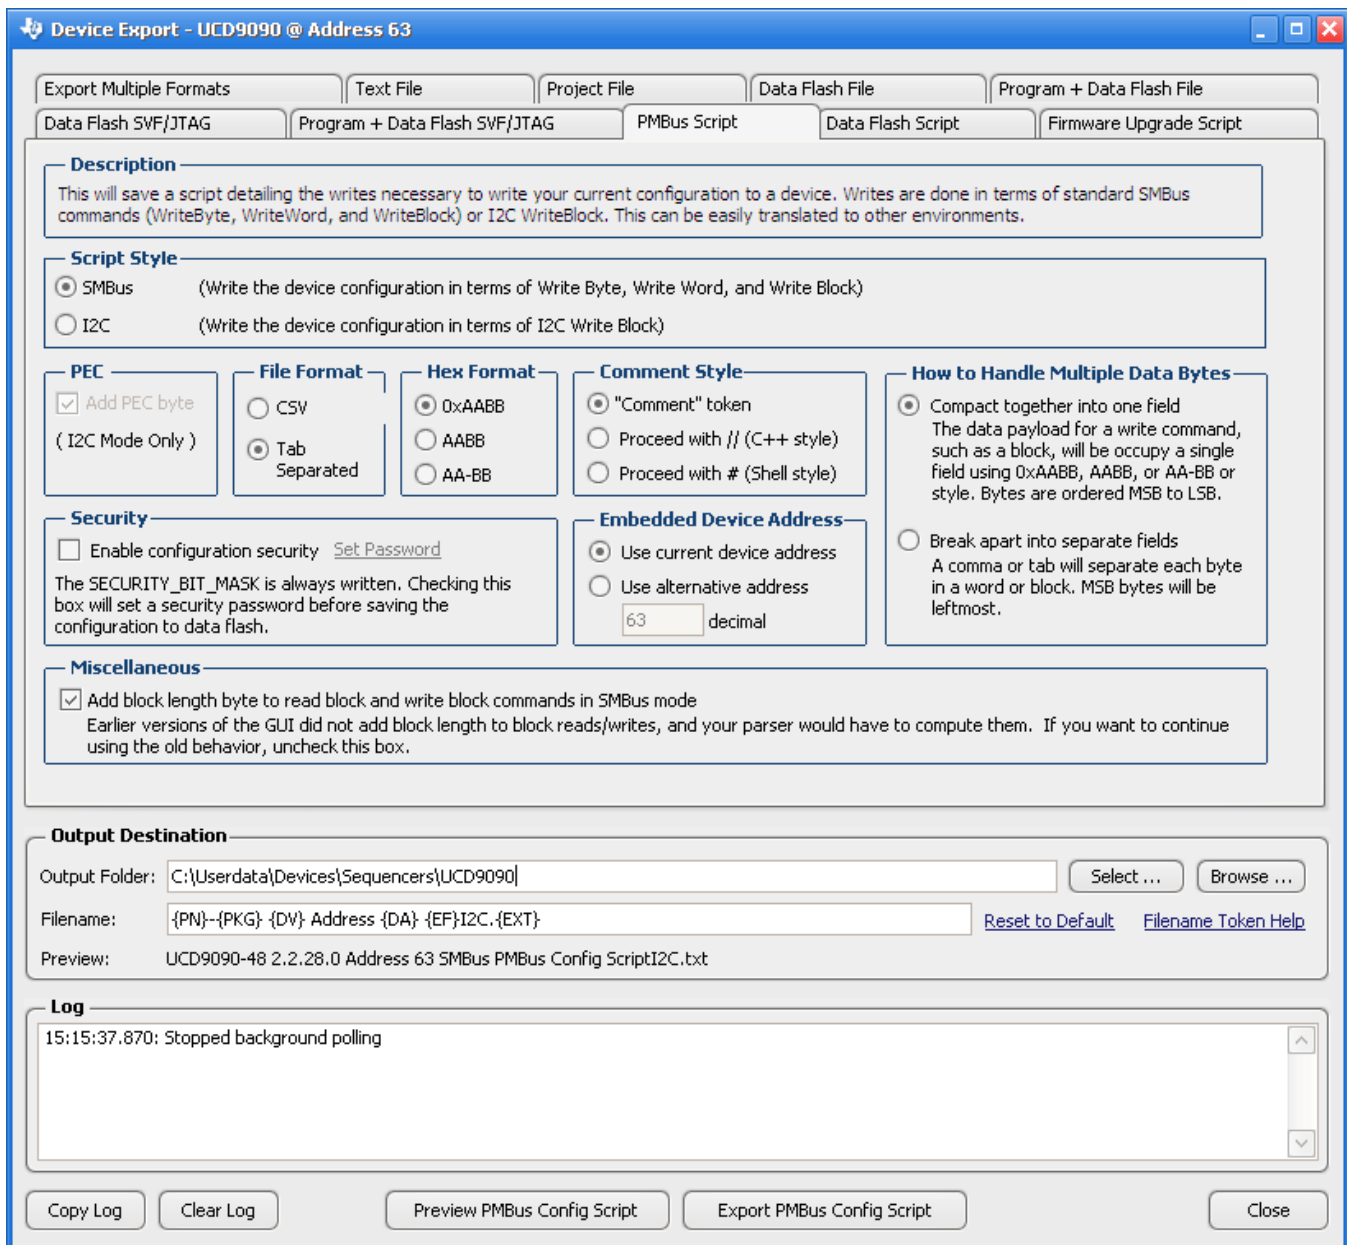

Figure 28. Fusion GUI PMBus Configuration Script Export Tool
- The *Fusion GUI* (Figure 28) can create a PMBus or I²C command script file that can be used by the I²C master to configure the device.